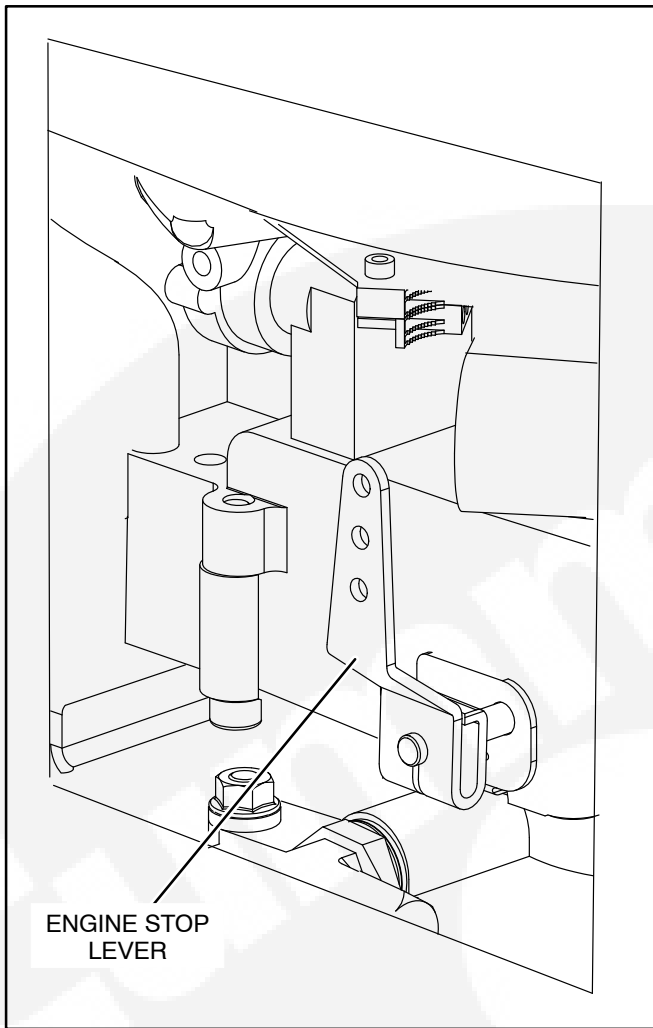

FIGURE 5-1. ENGINE STOP LEVER
1. Check that the engine stop lever is in its vertical (run) position (Figure 5-1). Refer to Engine Workshop Manual 983-0504 if the lever does not return to the run position after it has been pushed to stop the engine.
1. Stop the engine by pushing the engine stop lever (Figure 5-1) all the way to the left.